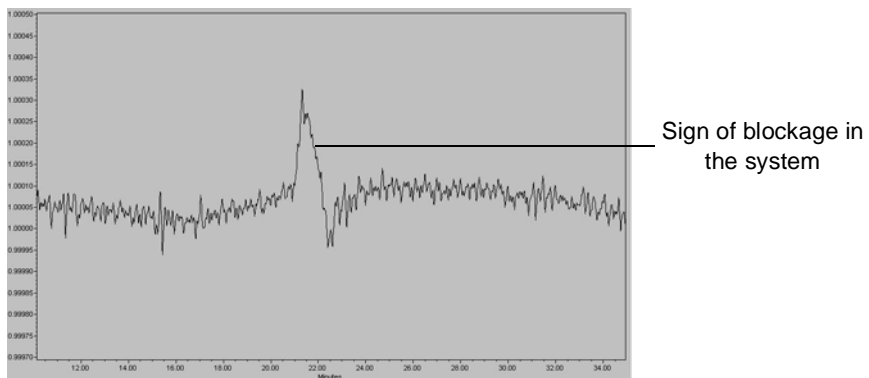

Figure 4-3 Abnormal Baseline
2. You can view a plot by using the Viewer (“Viewer Window” on page 27), the Interactive Mode window, or by plotting the P1 or P2 channel in Empower (Figure 4-3) if you have a GPC/V system. See “Manually Importing AIA Raw Data into the Empower Software” in the *Alliance GPC 2000 Series System Help*. The rise and fall of the baseline indicate a blockage within the system (twice the width of the baseline is acceptable).